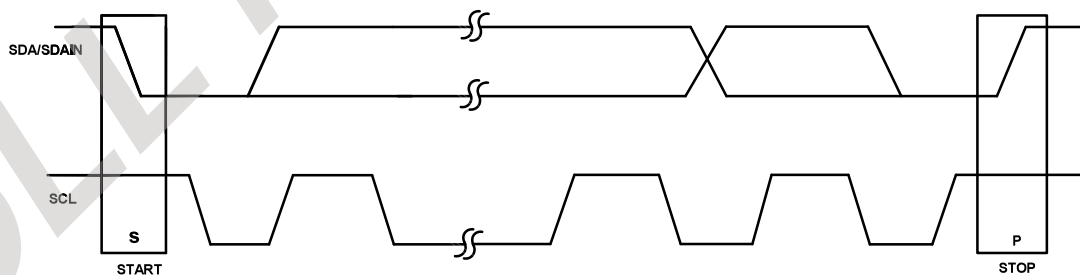

Figure 8 START and STOP Conditions
Both SCL and SDA remain high when the interface is not busy. A master signals the beginning of a transmission with a START (S) condition by transitioning SDA from high to low while SCL is high. When the master finishes communicating with the slave, the master issues a STOP (P) condition by transitioning SDA from low to high while SCL is high. The STOP condition frees the bus for another transmission (see Figure 8).